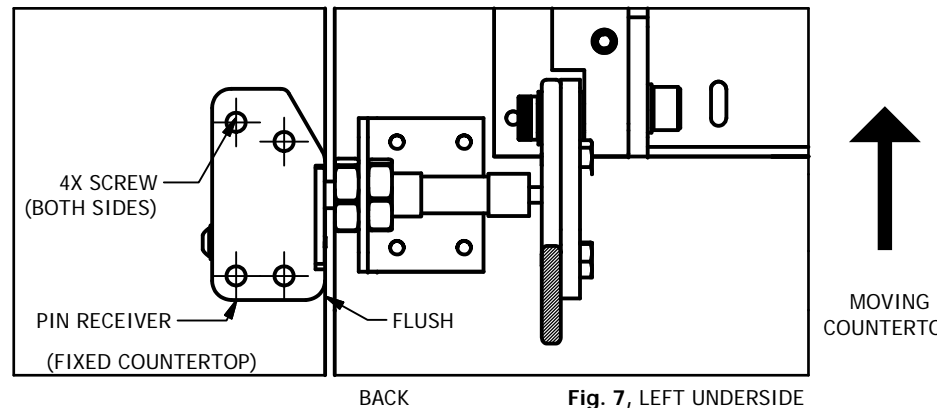

Fig. 7, LEFT UNDERSIDE
-Align rear pin receivers with pin latches and flush with fixed countertop. (Fig. 7)